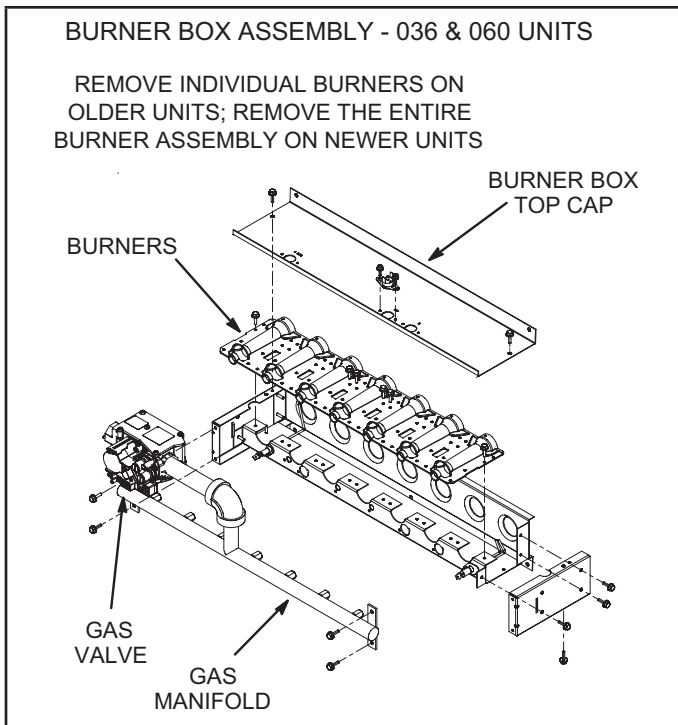
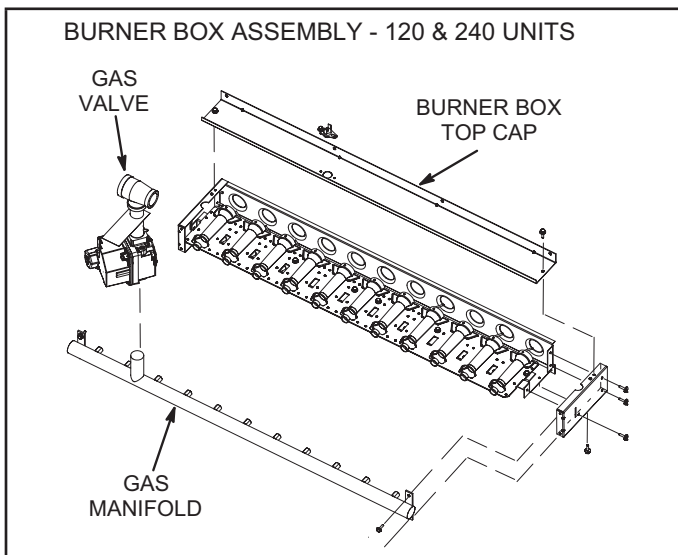

FIGURE 59
FIGURE 60
- 4 - Remove and retain two screws securing burners to burner support and lift the individual burners or the entire burner assembly from the orifices. See FIGURE 59 for 036 & 060 units and FIGURE 60 for 120, 240 units. Clean burners as necessary.